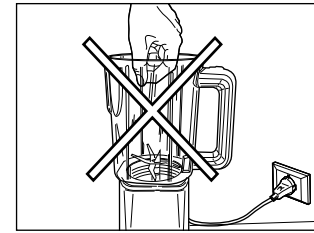

Fig. 9
- Never insert hands into the goblet whilst the appliance is plugged in (Fig. 9). Always use the food presser.